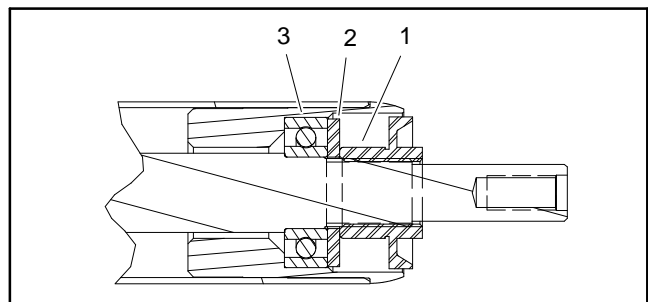

Figure 34
2. Position a new bearing, black assembly washer (see Special Tools) and original lock nut onto each end of the roller shaft (Fig. 34).